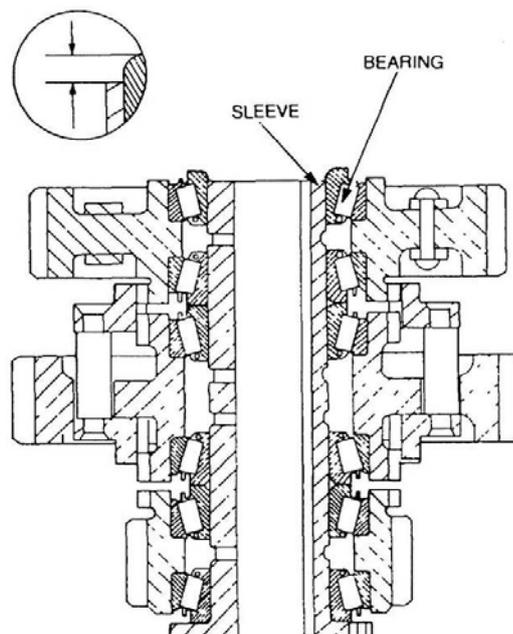

Figure 79 Intermediate Gear Assembly Pre-Load Setting - Sectional View
- i.** Using a dial indicator, measure the gap between the shoulder of the sleeve and the face of the bearings (Figure 79). Select a shim washer to obtain a pre-load of 0.10 to 0.20 mm (0.004 to 0.008 in).